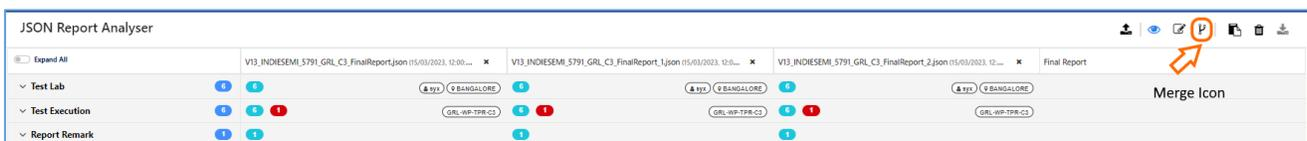

FIGURE 8.90: MERGE ICON
- Click on the Merge icon as shown in Figure 8.90.